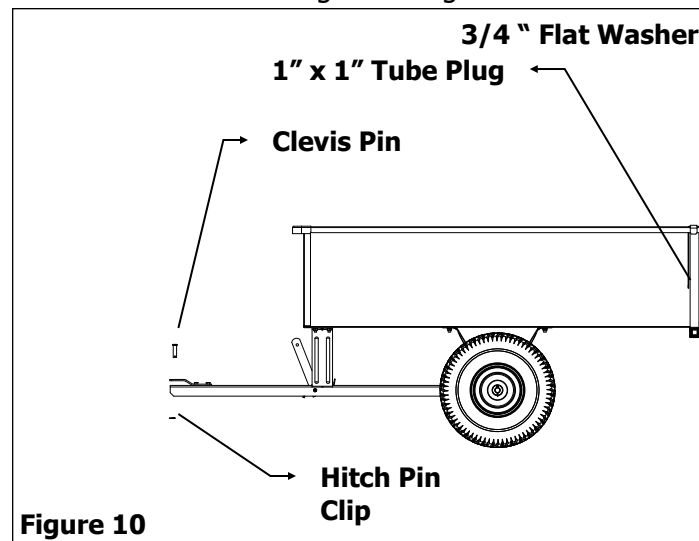

Figure 10
10. Turn Cart to an upright position, then attach Tow Bar to Hitch of tractor, placing Clevis Pin through Clevis Plate Hole and securing with Clevis Pin Clip. Insert 1" x 1" Tube Plugs. See Figure 10.